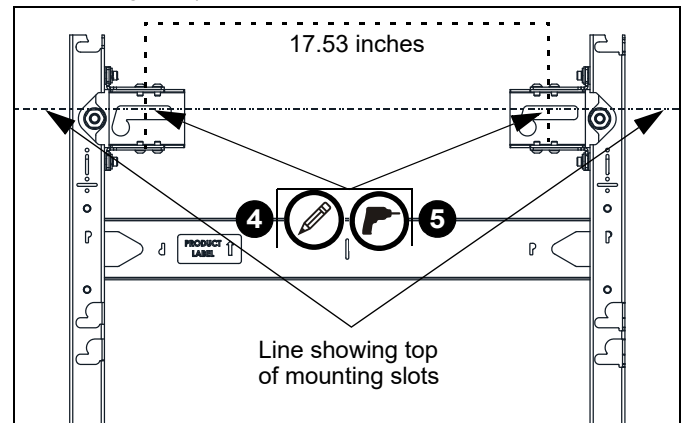

Figure 5
4. Mark mounting holes in two top mounting slots along the horizontal line marked in Step 3 of **Assessing the Installation Site** section. (See Figure 5)
NOTE: The mounting holes are 17.53" apart on-center. (See Figure 5)
5. Drill two pilot holes (see Table 1 for size) at each location marked in Step 4 (See Figure 5) and follow fastener information (appropriate for wall type) located in Table 1.